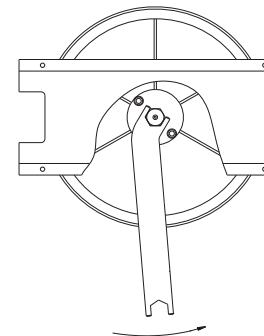
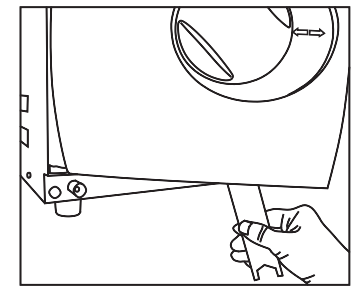

Fig 1
Fig 2
7.5.2 Insert the spanner tool in the gap beneath the plastic cover; use the spanner to grip the adjusting nut (Fig 1). Turn the nut counter clockwise as the figure below (Fig 2). This will tighten the sealing plate.